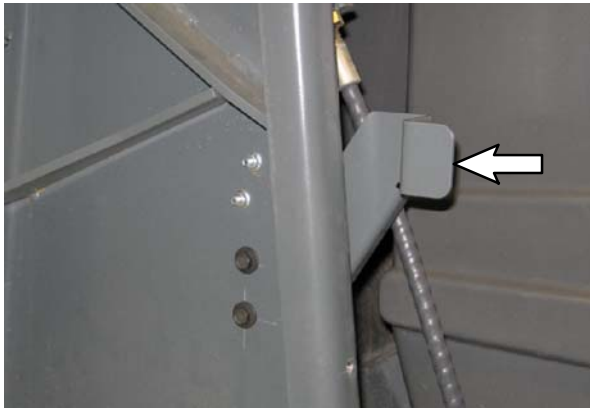

FIG. 26
33. Use two SEMS hex screws (11) and two flange nuts (13) to install the the side door latch bracket (40) onto the machine. (Fig. 26)